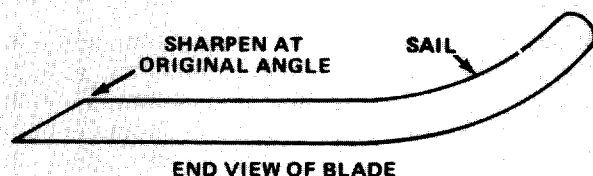

Figure 30
3. Inspect cutting edges of all blades. Sharpen the cutting edges if they are dull or nicked. Sharpen only the top side of the cutting edge and maintain the original cutting angle to make sure of sharpness (Fig. 30). The blade will remain balanced if same amount of metal is removed from both cutting edges.